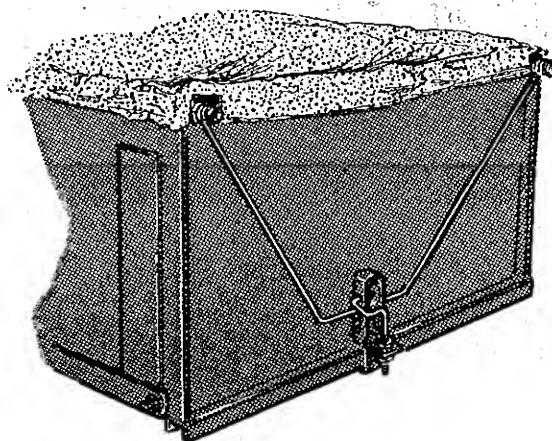

FIGURE 13
2. Lay the assembly on the cart with the canvas side flaps inside the cart. Engage the front stops over the box front edge, then pull the rear strap down and hook it under the box rear edge. (See Figure 13)